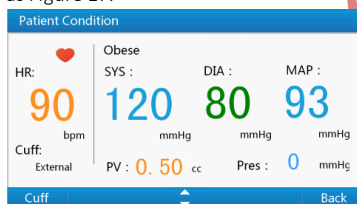

Figure 17 Patient condition BP simulation interface
- 1) Select "Patient Condition" in "BP Simulation Menu" or use number key "5" to the patient condition BP simulation interface shown as Figure 17.